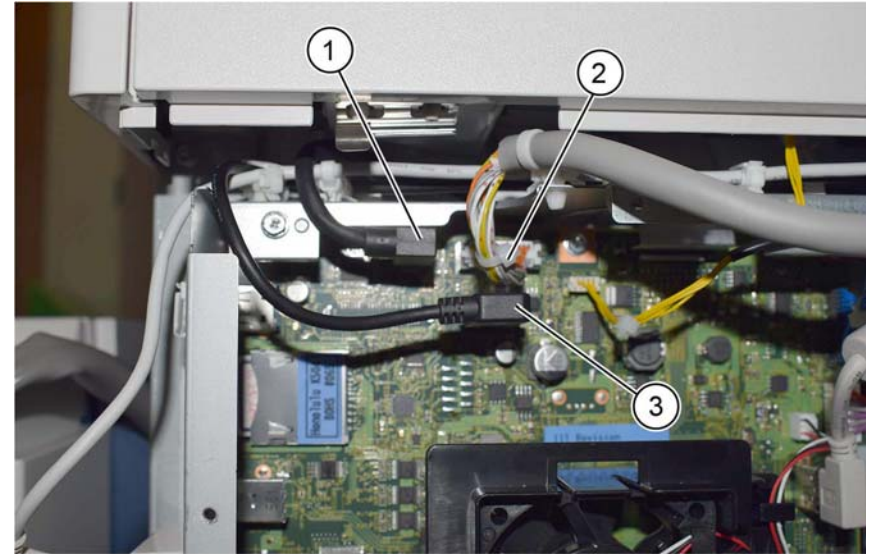

Figure 6 Cables
7. Disconnect the USB, DADF I/F and UI cables, Figure 6:
- a. Disconnect the USB cable (1).
- b. Disconnect the DADF I/F cable (2). (**C7030F only**).
- c. Disconnect the UI cable (3).